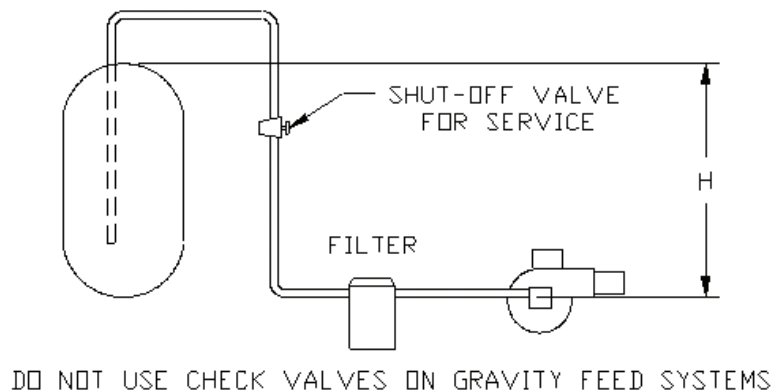

FIGURE 10.1: ONE-PIPE GRAVITY SYSTEM
- a) ONE-PIPE GRAVITY SYSTEM - used when a fuel oil storage tank is positioned above an oil burner fuel pump. See Figure 10.1. A vertical distance from top of the tank to center line of the pump (Dimension 'H') over 8 feet will result in a pump inlet pressure in excess of the 3-psi limit in NFPA-31.